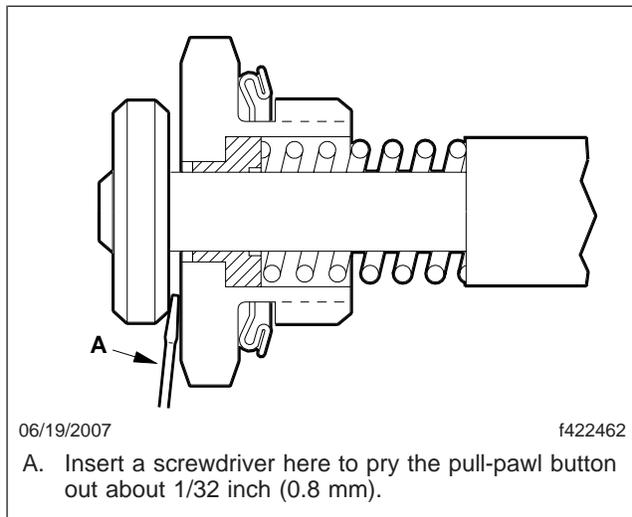

Fig. 2, Pull-Pawl Assembly
4. Using a screwdriver or an equivalent tool, pry the pawl button out about 1/32 inch (0.8 mm). See Fig. 2.
- 6.4 Using a screwdriver or an equivalent tool, pry the pawl button out at least 1/32 inch (0.8 mm). See Fig. 2. Wedge the tool in place.
- 7.6 Using a screwdriver or an equivalent tool, pry the pawl button out about 1/32 inch (0.8 mm). See Fig. 2. Wedge the tool in place.
3. Using a screwdriver, pry the pull-pawl button out at least 1/32 inch (0.8 mm) to disengage the pull-pawl teeth from the slack adjuster actuator. See **Fig. 2**. Wedge the screwdriver in place. The pull-pawl will need to be disengaged until the brake adjustment is complete.